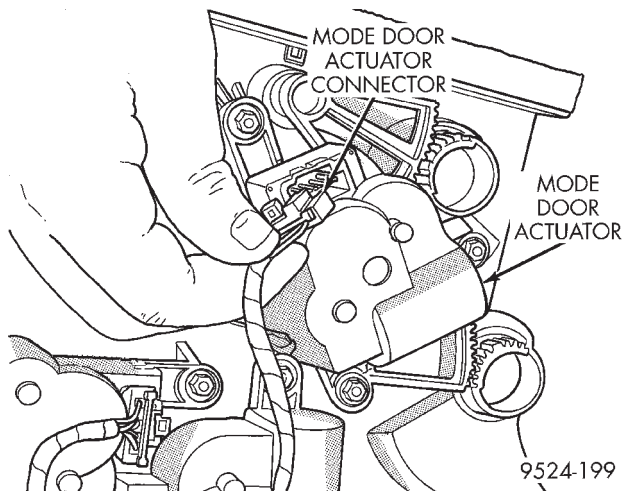

Fig. 41 Mode Door Actuator Connector
(3) Remove mode actuator connector (Fig. 41).